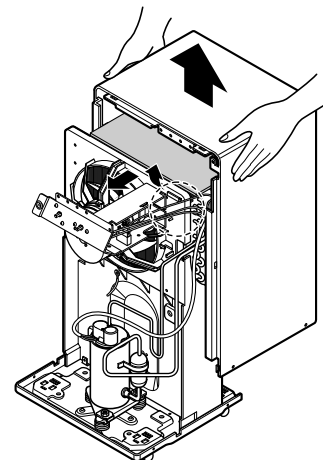

Figure 8
5. Unhook control box assy from two up and lower hooks on the Housing assy like Figure 8.